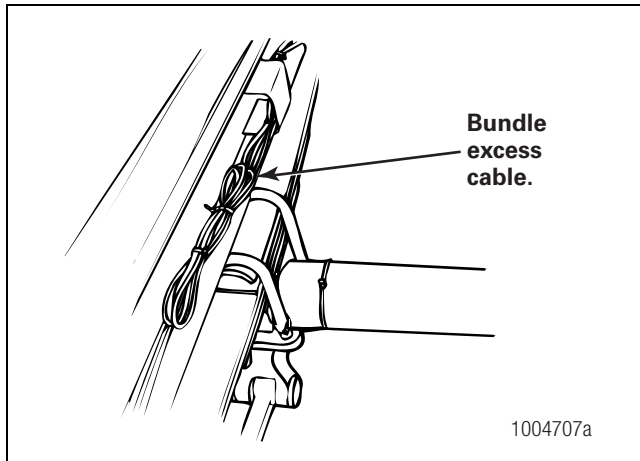

Figure 4.64
7. Fasten the sensor cable with tie wraps every 12 inches. Do not overtighten the tie wraps. Correctly bundle and store any excess cable in the sub-frame. Figure 4.64.
7. Fasten the sensor cable with tie wraps every 12 inches. Do not overtighten the tie wraps. Correctly bundle and store excess cable in the sub-frame. Figure 4.64.